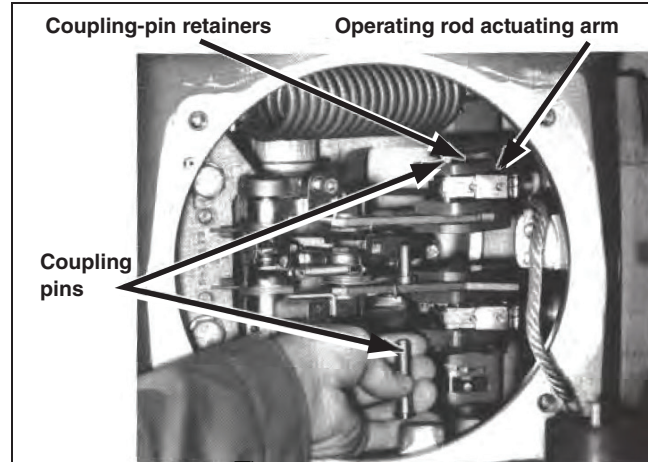

Figure 8. Removing the coupling pins.
STEP 7. Lift the coupling-pin retainers on both operating rod actuating arms and swing the retainers toward the interrupter. Avoid excessive deflection that could overstress the retainers and cause distortion. Remove and discard the coupling pins. See Figure 8. A small screwdriver may be used to pry at the head of the pin.